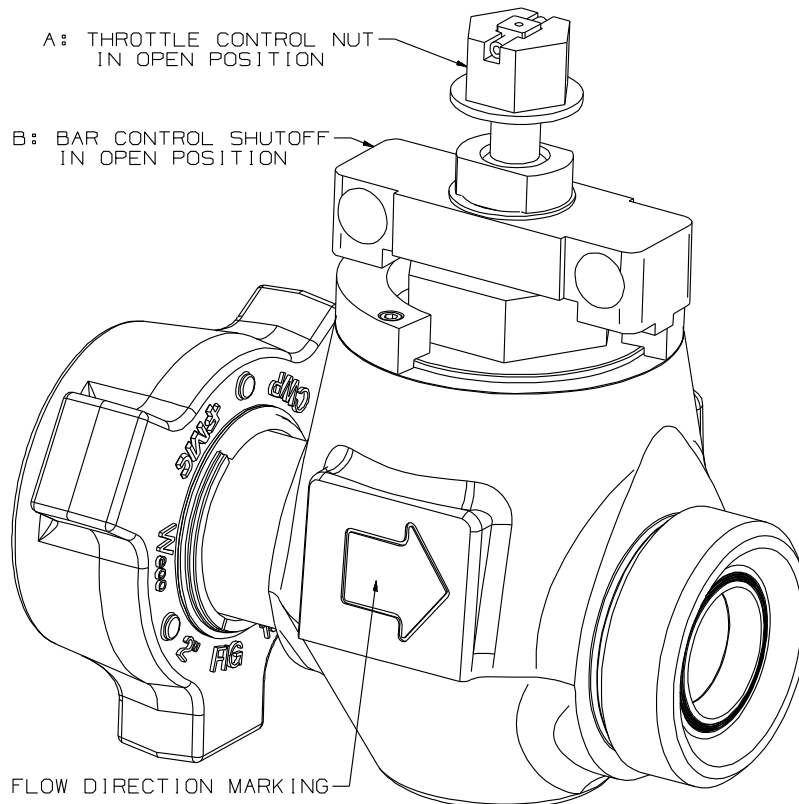

Figure 4: Valve fully open
- b) To complete the bleed, slowly open the throttling control by rotating the throttle control nut counter-clockwise (while looking at the valve from the top) thereby moving the stem upwards. Fully open the throttle to minimize the amount of wear to the valve (see Figure 4).